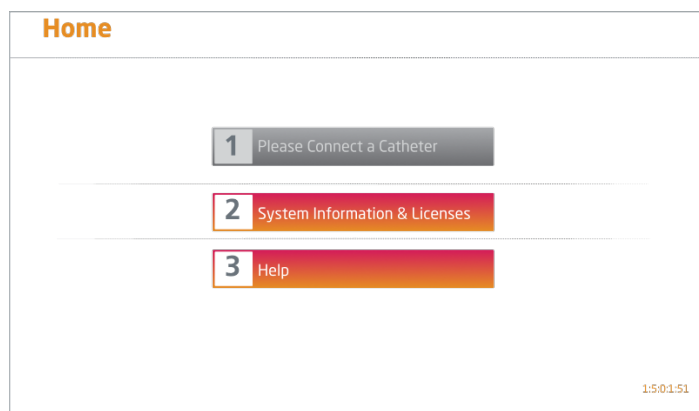

Figure 13: MPVS Duo Home - Please Connect Catheter
1. Home - Please Connect Catheter - Figure 13